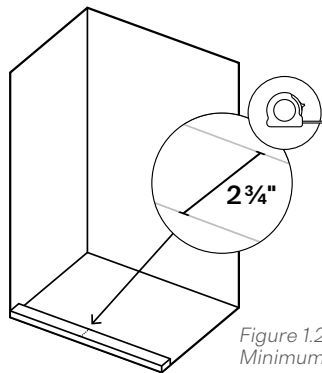

Figure 1.2 Equinox Round Slider Minimum Threshold Width
- d. **Verify Threshold Width** - If your shower installation features a raised threshold, the completed threshold must be a minimum width of **2 3/4"** or this model will not fit your space. (Fig. 1.2)